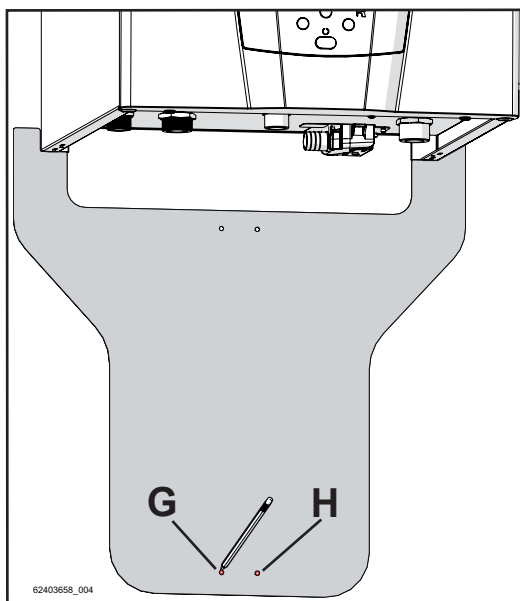

Figure 5-24
- 2 - Mark holes "G", "H" and "L", "M" using a pencil as shown in figures 5-24 and 5-25;